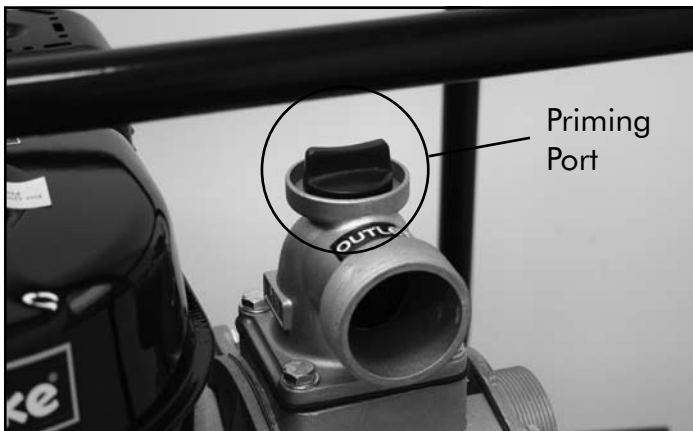

Figure 2
9. Add water to the priming port on the pump (See Figure 2). Continue adding water until the water level is approximately 3 inches from the top. Install the priming plug. The water in the pump will create the suction that primes the pump.